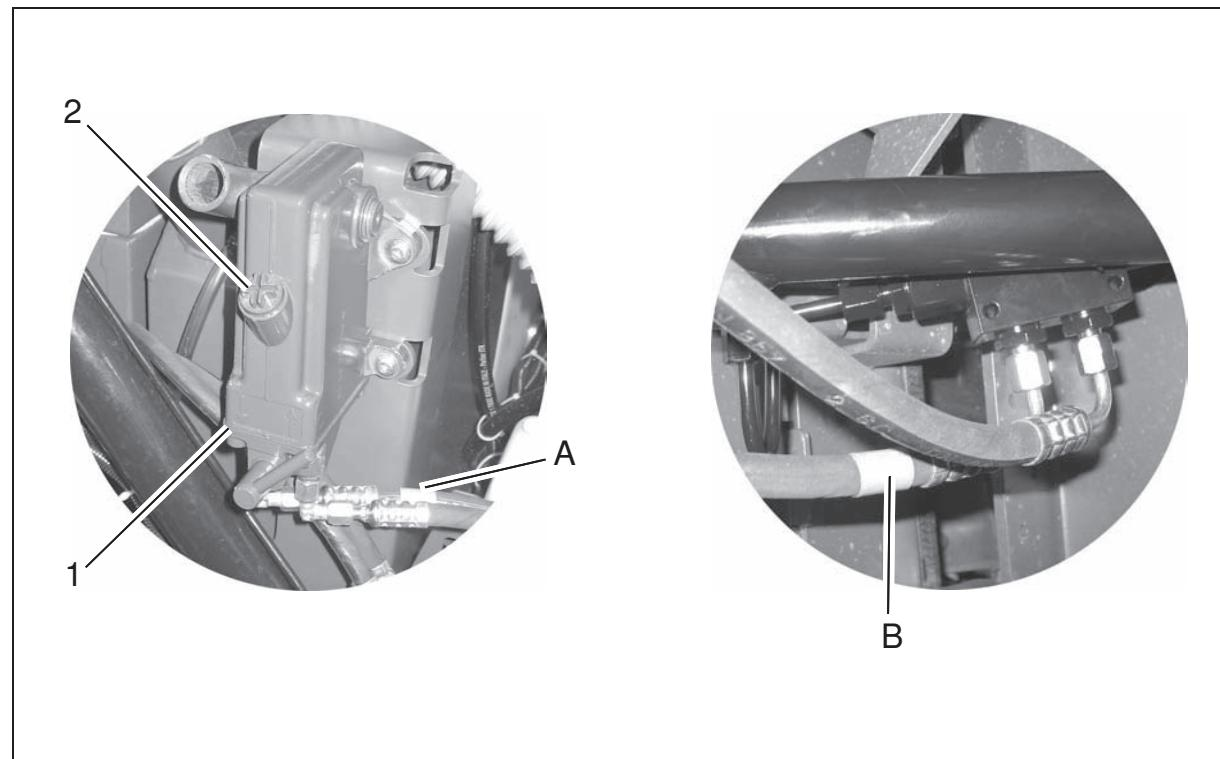

Fig. 6
7. Lay both hydraulic hoses (Fig. 6/A and B) from the hand pump (Fig. 6/1) underneath the valve manifold to the front up to the hydraulic cylinder (Fig. 6/2).
9. Open the oil filling neck (Fig. 6/2) in the hand pump and fill hydraulic oil, e.g. Mabiloil: DTE 25. Fill quantity: approx. 0.5 liters. Oil level: bottom edge of the filling neck.